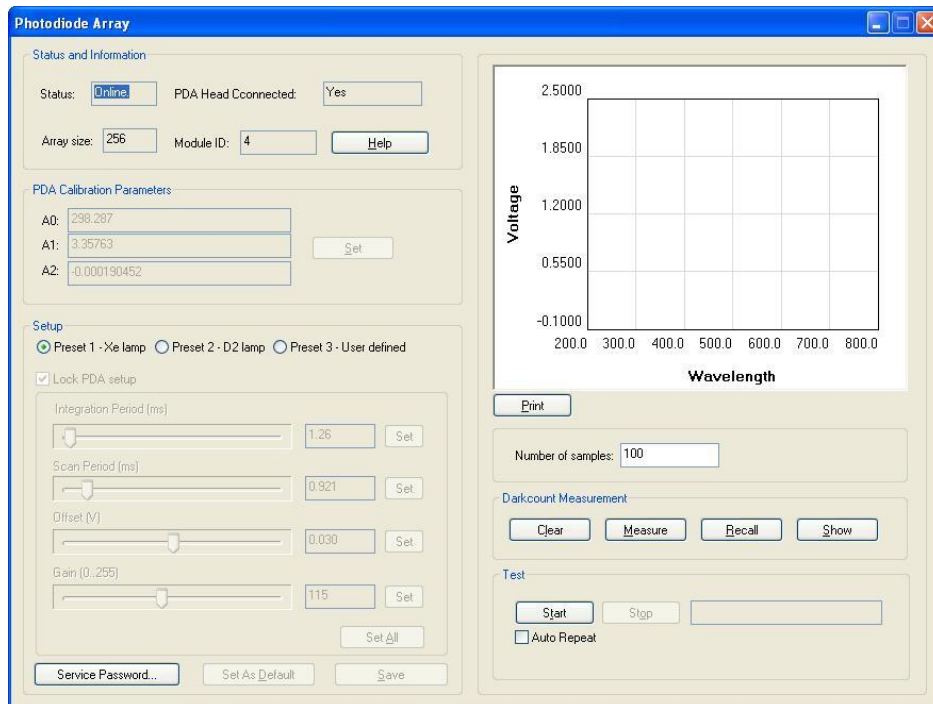

Figure 4.4 - PDA devices window
5. You will see a window such as in Figure 4.4.